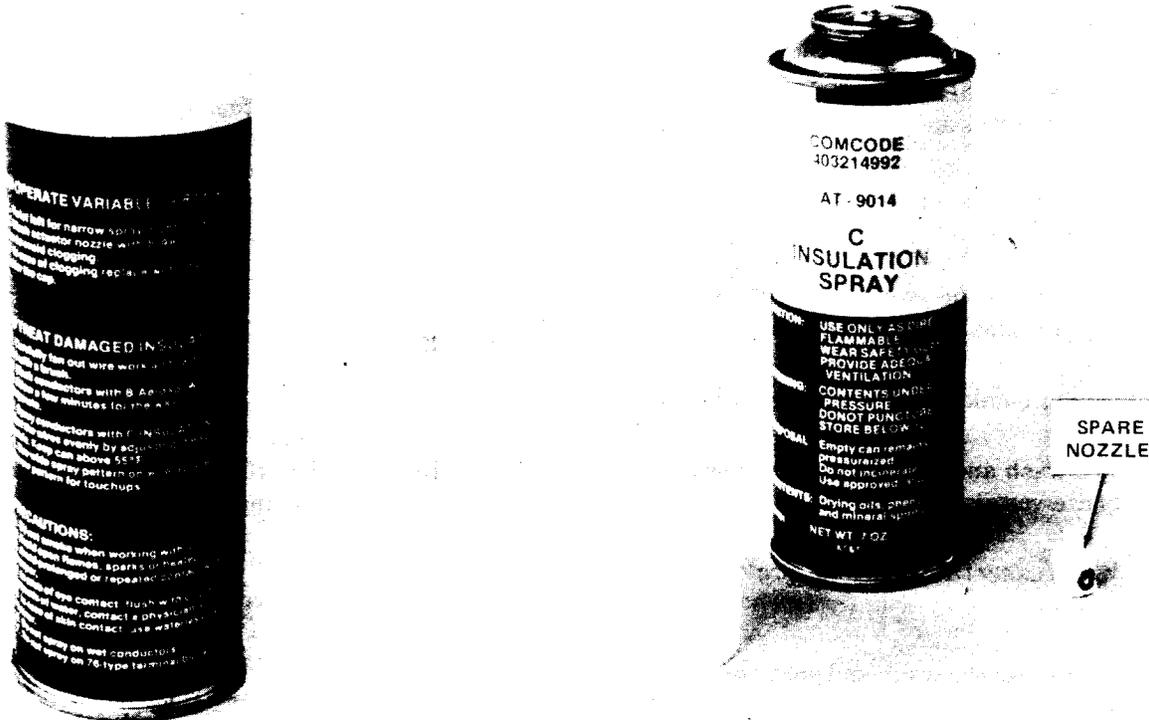

Fig. 1 — C Insulation Spray
**3.02** The C insulation spray (Fig. 1) is a composition of drying oils, a phenolic resin, and mineral spirits. The spray is furnished under pressure in a 7-ounce can with an actuator nozzle. A spare nozzle is supplied under the cap.